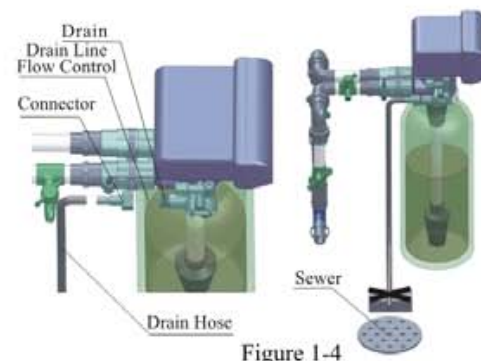

Figure 1-4
- If the valve belongs to time clock type, there are no step ② and ③
⑤ Install drain pipeline
- As the Figure 1-4 shows, slide the drain hose connector into drain outlet.
- Locate the drain hose well as the Figure1-4 show.
- Be sure not connect drain with sewer, and leave a certain space between them, avoid wastewater be absorbing to the water treatment equipment, such as showed in the Figure1-4.
⑥ Connect brine tube